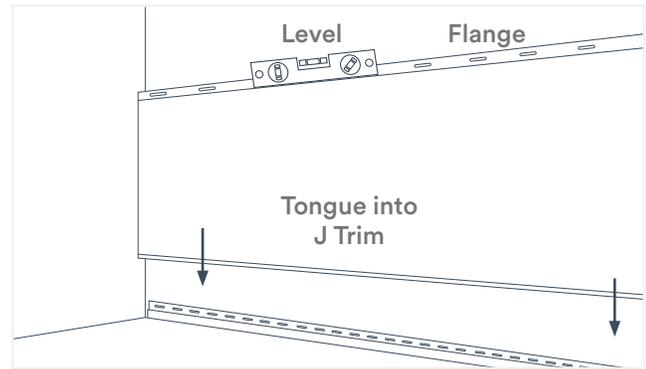

Fig. 17
3. Cut the length of the first panel for the first course. Starting from the bottom, position the panel so the screw flange is pointing away from the floor. Before fastening, use a level to ensure the panel is properly aligned and leave a 1/8" gap between the tongue side of the panel and the adjoining trim (Fig. 17). Fasten a minimum of once every 24" with recommended screws.